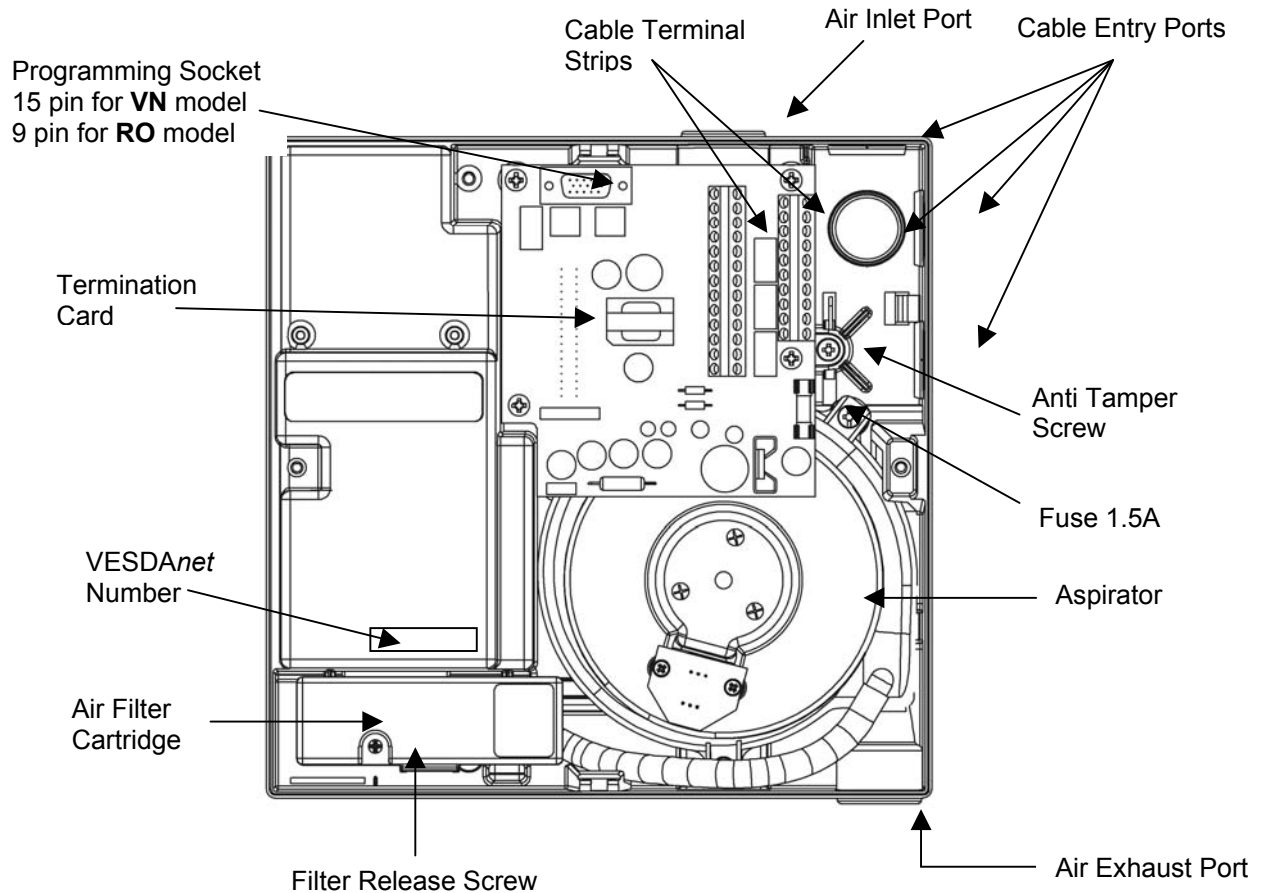

Figure 7 Location of Anti Tamper Screw and other Components inside the Enclosure
- Slide the device downwards until it locks onto the tabs and screw in the anti tamper screw. Refer to figure 7 for screw location.